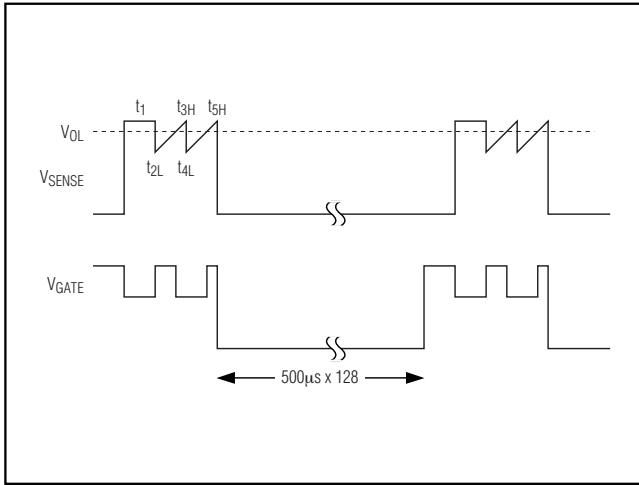

Figure 14. MAX5921A Overcurrent Fault Example
The MAX5921/MAX5939 feature an overcurrent fault integrator. When an overcurrent condition is detected, an internal digital counter is incremented. The clock period for the digital counter is 32 $\mu$ s for the 500 $\mu$ s maximum current-limit duration version and 128 $\mu$ s for 2ms maximum current-limit duration devices. An overcurrent of less than 32 $\mu$ s is interpreted as an overcurrent of 32 $\mu$ s. When the counter reaches 500 $\mu$ s (the maximum current-limit duration) for the MAX5921/MAX5939A, an overcurrent fault is generated. If the overcurrent fault does not last 500 $\mu$ s, then the counter begins decrementing at a rate 128 (maximum current-limit duty cycle) times slower than the counter was incrementing. Repeated overcurrent conditions generate a fault if the duty cycle of the overcurrent condition duty ratio is greater than the maximum current-limit duty cycle (see Figure 14).
- If an optocoupler is utilized as in Figure 14, determine the LED series resistor: